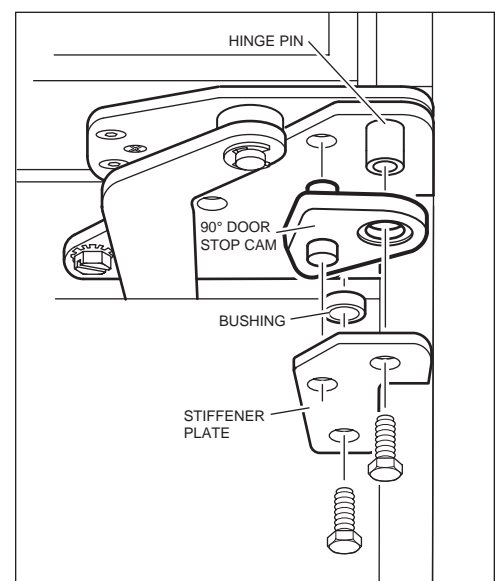

Figure 2-15. 90° Stop Cam
- Place door stop cam up over hinge pin, making sure stub on cam fits into hole in lower cabinet hinge (See Figure 2-15).
- Reinstall bushing, stiffener plate and bolts onto lower cabinet hinge (See Figure 2-15).